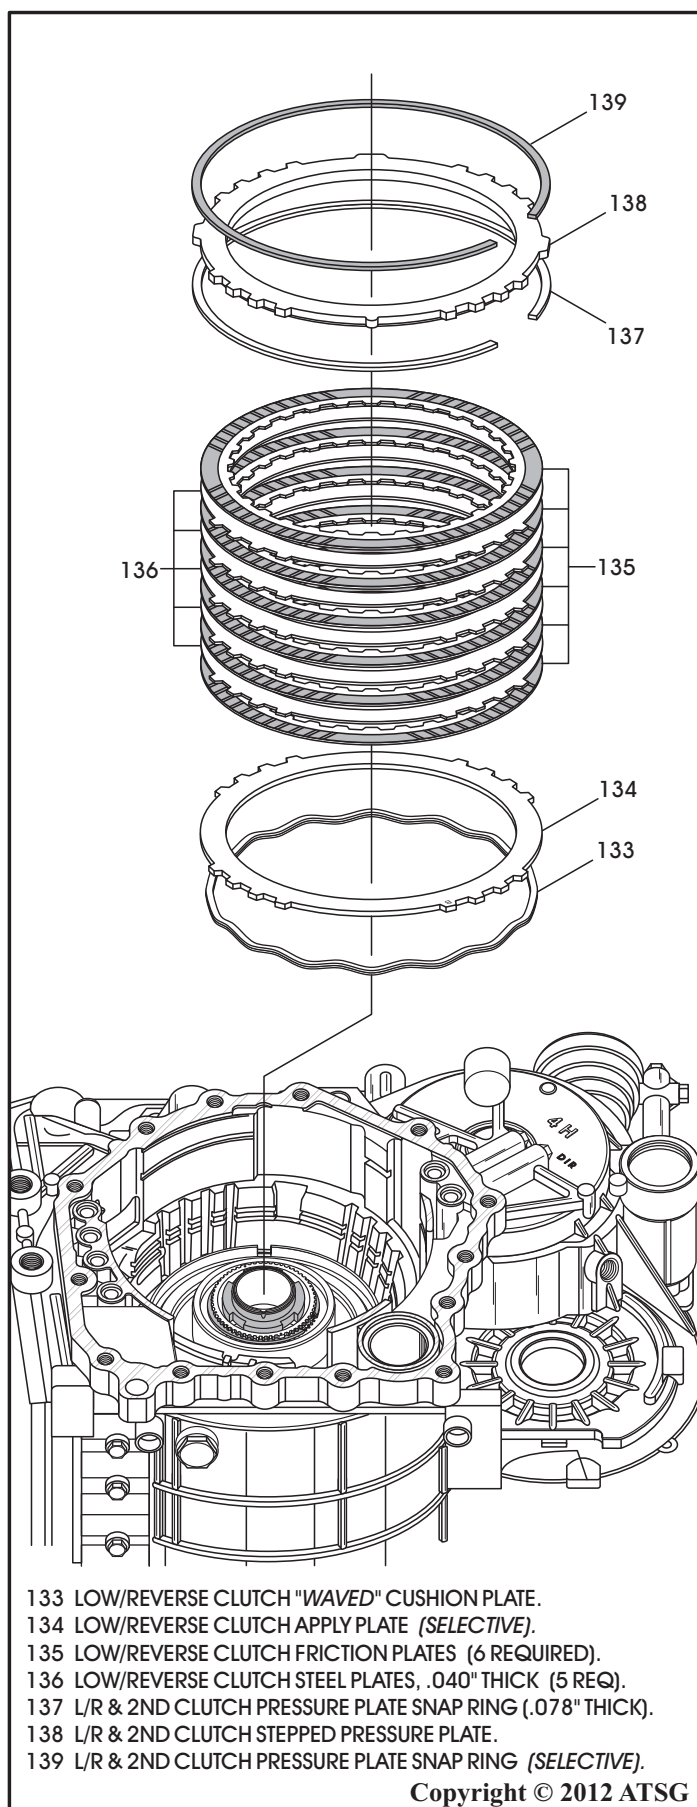

Figure 90
72. Remove the L/R & 2nd clutch pressure plate **selective** snap ring (139) and the L/R & 2nd clutch pressure plate, as shown in Figure 90.
73. Remove the next snap ring (137) from the groove in the case, as shown in Figure 90.
74. Remove the low/reverse clutch friction and steel plates, as shown in Figure 90.
75. Remove the low/reverse clutch **selective** apply plate, as shown in Figure 90.
76. Remove the low/reverse clutch "Waved" plate, as shown in Figure 90.